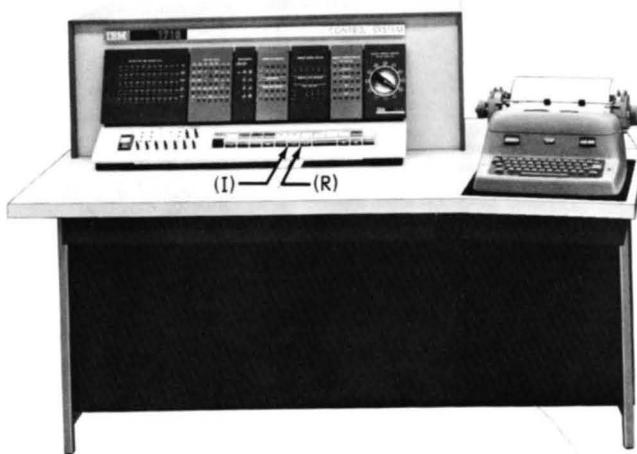
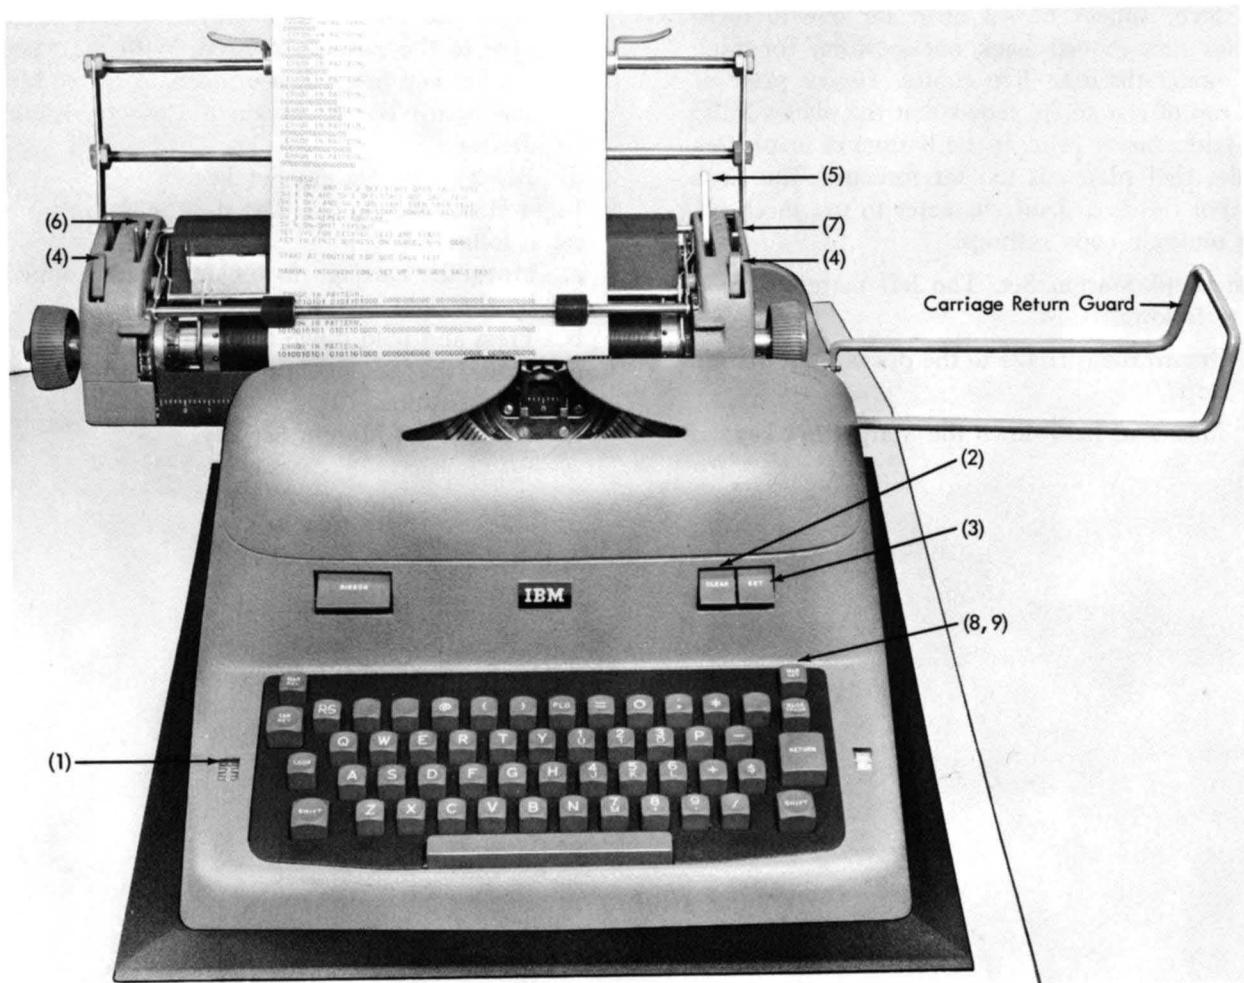

Figure 50. IBM 1620 CPU with I/O Typewriter
Figure 51. I/O Typewriter, Manual Controls and Keys
The 1620 console typewriter (Figures 50 and 51) is the principal communicating link between the operator and the system.
The 1620 console typewriter is used to enter data and instructions directly into core storage. Off-line use is not possible because the keyboard (Figure 51) is locked except when entering data. Pressing the console Insert key (see Figure 50, I) unlocks the keyboard and permits data to be entered into core storage, starting at location 00000. Each depression of a typewriter key enters a character into core storage one location higher than the previous character. As many as 100 characters can be entered from the typewriter. After the 100th character is entered, an automatic release is initiated and the machine returns to manual mode. The Start key may then be used to start program operation at 00000.
If a record mark is required in core storage following the last character entered, the Record Mark key on the typewriter must be pressed before pressing either the R-S key on the typewriter or the Release key on the console (Figure 50, R). Pressing either key again locks the keyboard and gives the computer an end-of-input/output indication.
The numbers preceding each of the following headings refer to numerals on Figure 51 designating particular keys, etc., (1), for example, designates the Impression indicator.
1. **Impression Indicator.** The lever under this window can be positioned in settings from 0 to 10, and determines the force with which the type bars strike the paper. The higher the indicator setting, the harder the type bars strike. To test for the correct setting, move the indicator up until the comma and period print distinctly but not heavily. Use a higher setting for multiple copies, but be sure that the multiple copy lever (7) is also correctly set before finally adjusting the impression.